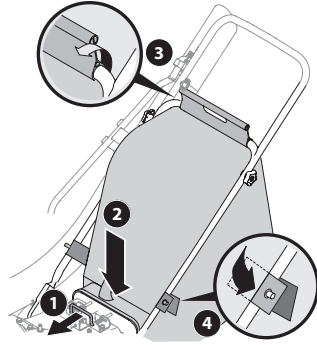

Figure 6
1. Grasp bag handle with one hand and slide locking rod on mounting bracket with other hand toward engine. Use the end of mounting bracket as leverage when sliding the locking rod. See Figure 6.
4. Place the lower straps on the bag over the top of lower handle, hooking them on the studs. See Figure 6.